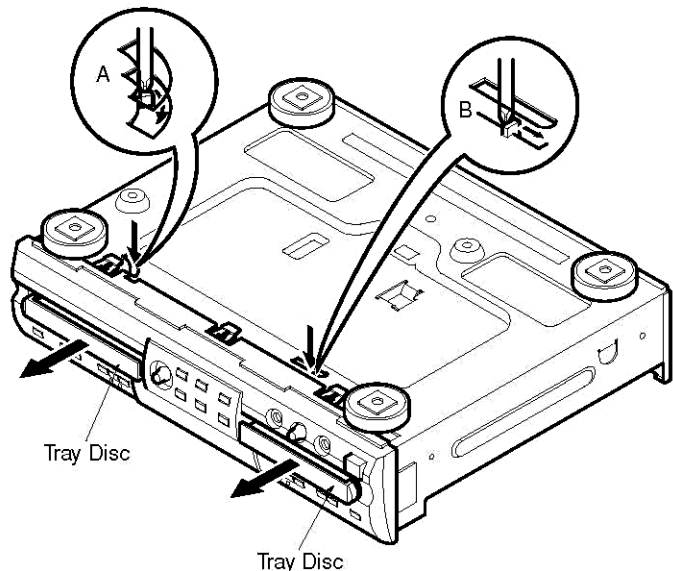

Fig. 1
2. Panel Front Removal (See Fig.1, 2)
- 1) Turn over the set. Insert a screwdriver into slots A and B (shown in Fig. 1), and move the manual pull-out lever of Tray Disc in the direction of the arrow, to pull out the Tray Disc. (See Fig. 1)